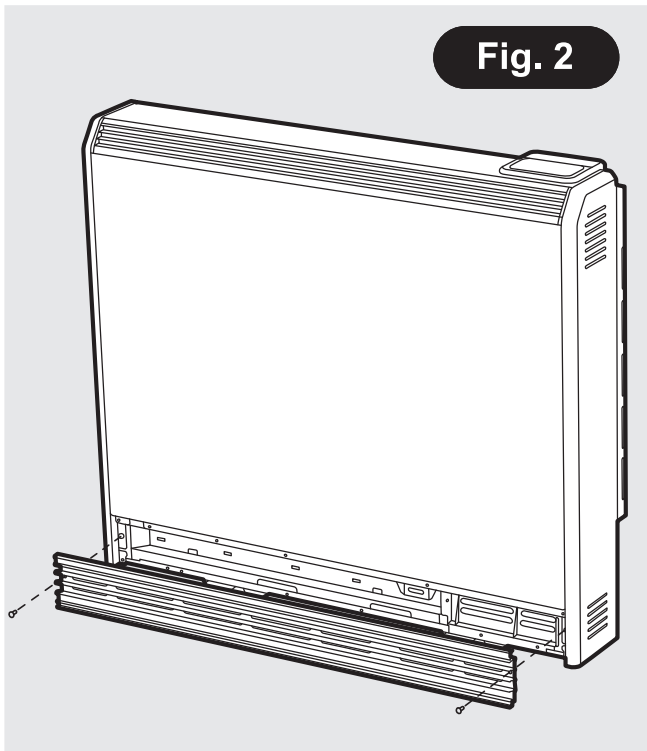

Fig. 2
3. Ensure the heater is stable before removing the screws which hold the bottom grille panel in position. (Fig. 2) Set the bottom grille to one side, avoiding its sharp edges when handling.